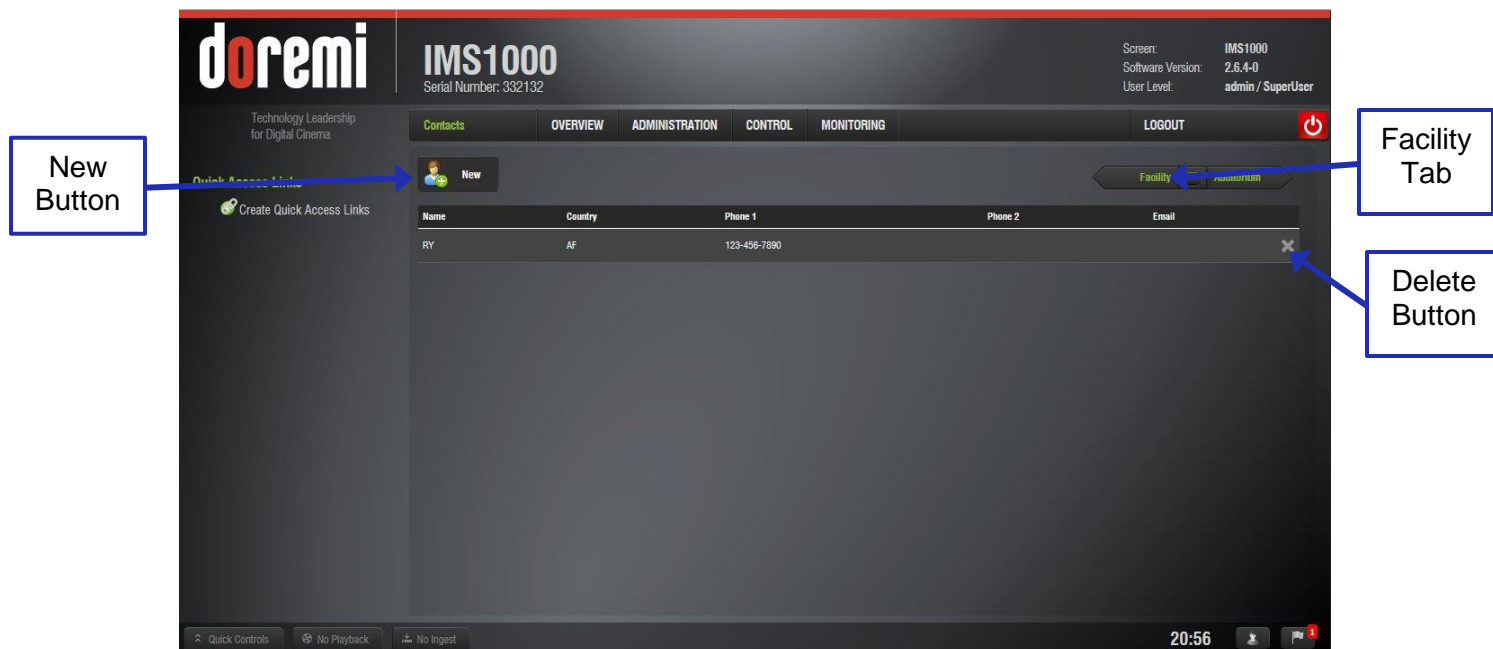

Figure 176: Contacts Tab
Here the user can input the information of the appropriate contact for the facility (Figure 176).
- Click on the New button (Figure 176).
- To delete a contact, hover over it and click on the X that appears on the right (Figure 176).
To access the Facility tab, use the arrow at the right side of the Theater Properties tab (Figure 176).